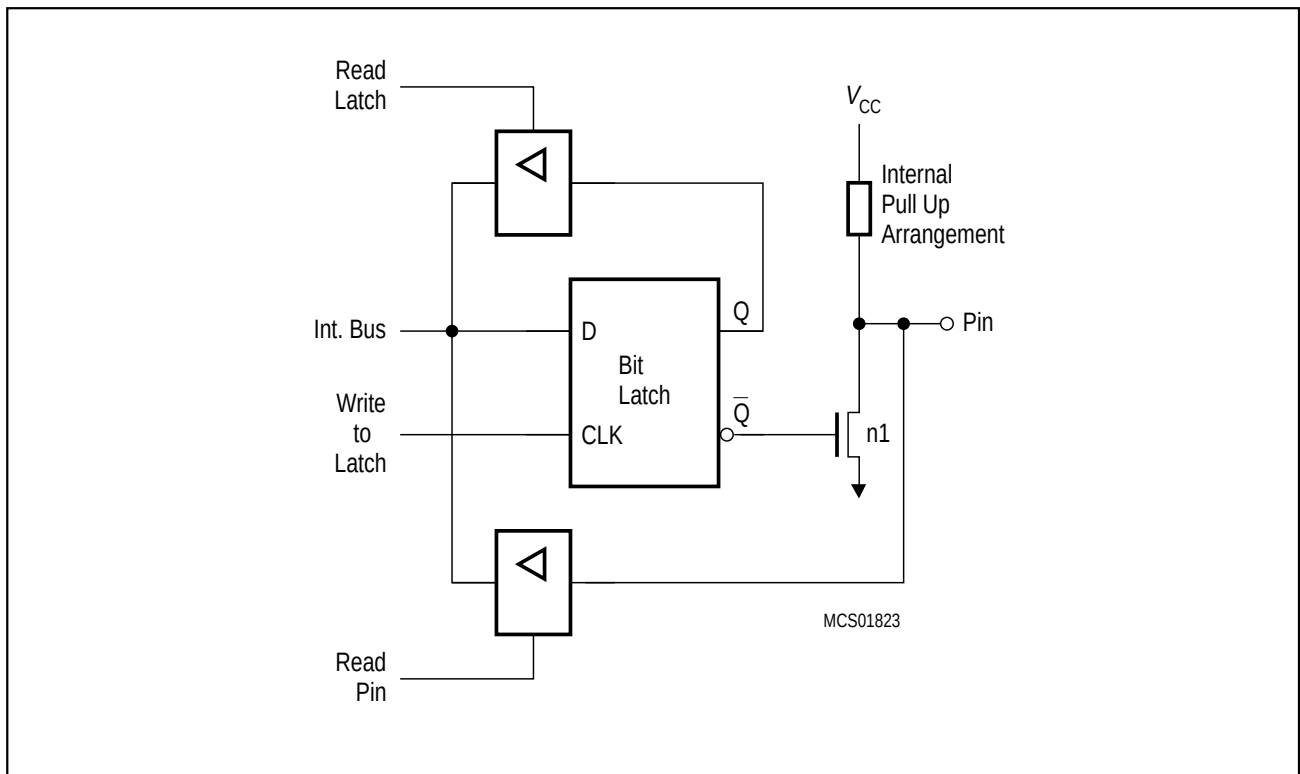

Figure 6-2
The output drivers of port 1 to 5 have internal pullup FET's (see **figure 6-2**). Each I/O line can be used independently as an input or output. To be used as an input, the port bit stored in the bit latch must contain a one (1) (that means for **figure 6-2**: $\overline{Q}=0$), which turns off the output driver FET n1. Then, for ports 1 to 5 the pin is pulled high by the internal pullups, but can be pulled low by an external source. When externally pulled low the port pins source current (I_{IL} or I_{TL}). For this reason these ports are called "quasi-bidirectional".
In fact, the pullups mentioned before and included in **figure 6-2, 6-4** and **6-5** are pullup arrangements.